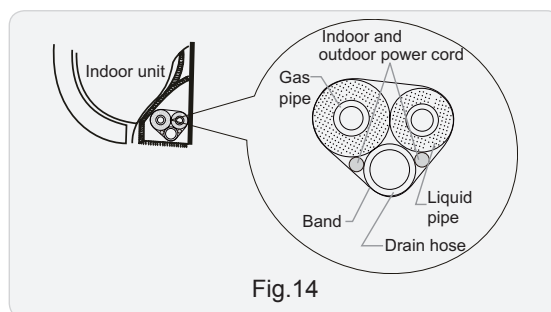

Fig.14
- Bind up the connection pipe, power cord and drain hose with the band. (As show in Fig.14)